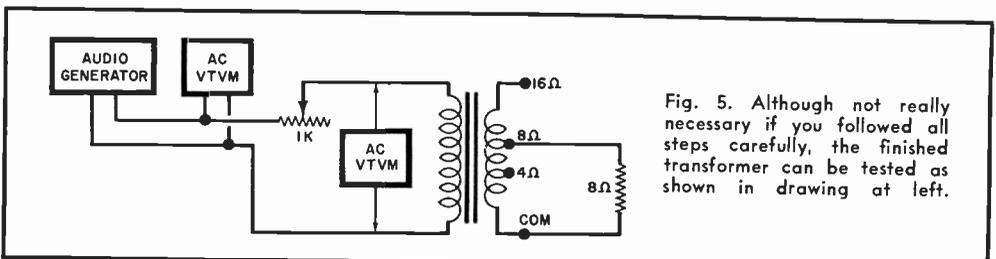

Fig. 5. Although not really necessary if you followed all steps carefully, the finished transformer can be tested as shown in drawing at left.
**Testing** the completed transformer is not really necessary if you exercised care during assembly and followed each step exactly as described. However, if you want to be on the safe side, you can test the transformer with the aid of an audio signal generator, two ac VTVM's or FET VOM's, an 8-ohm load resistor, and a 1000-ohm potentiometer as shown in Fig. 5. Set the generator's amplitude control for an output of several volts at 1000 Hz. Adjust the potentiometer for minimum resistance so that both meters have an identical reading.